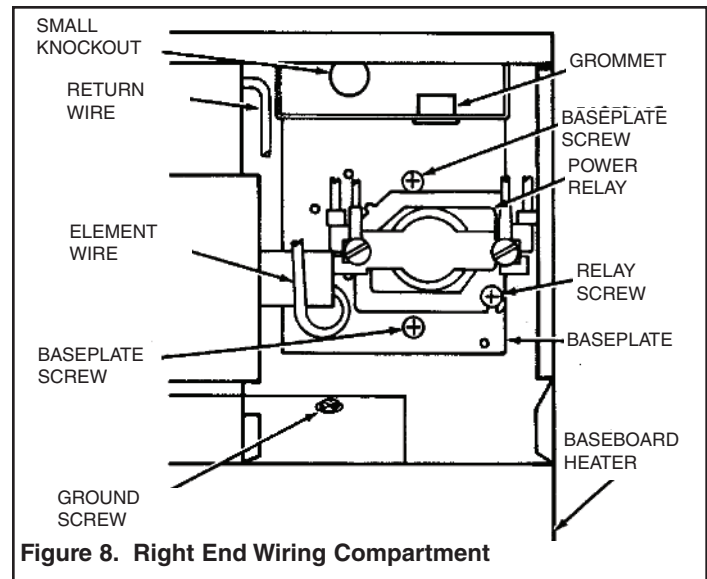

Figure 8. Right End Wiring Compartment
2. On PR24 model, using 24 volt class 2 control circuit wiring, remove small knockout in back of baseboard and make aligning hole in wall (See Figures 8 or 9). Route 24 volt class 2 external control circuit wires through this hole. On PR120 model, the control circuit wiring connections may be made in the heater wiring compartment.
3. Attach baseplate to back of wiring compartment with screws provided. (See Figure 8 or 9). Insert snap bushing in appropriate hole in baseplate top.
4. Mount power relay on baseplate and securely fasten with screw provided. See Figure 8 or 9 for proper mounting location on baseplate.